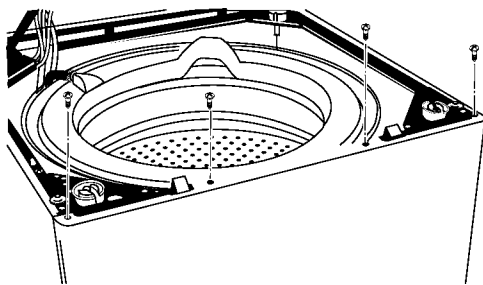

Fig. 3-23
3. Remove the four (4) screws located along the top edge of the front cabinet panel. (Fig. 3-23)